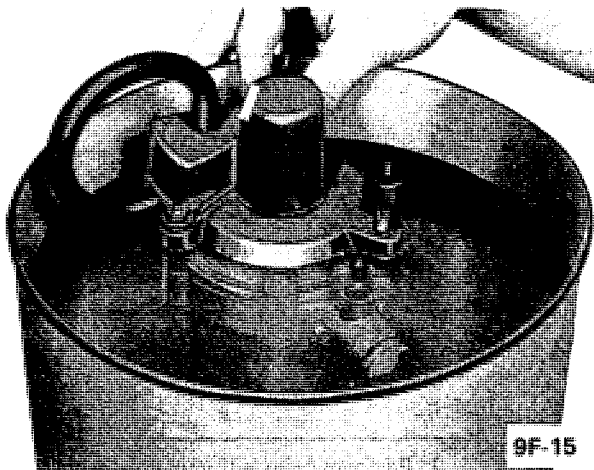

Figure 9F-2 - Checking Compressor, Reservoir Tank and Regulator for Leaks
3. Route an 8" piece of rubber hose between vacuum and vent ports. See Figure 9F-2.